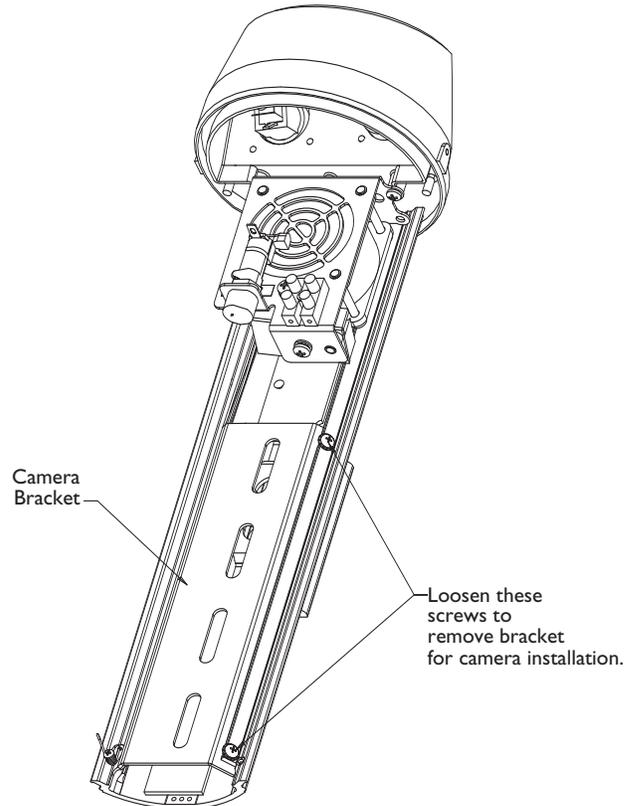

Figure 3: Removing the Camera Bracket
1. Loosen the two screws holding the camera bracket to the base. It is not necessary to remove them completely. See **Figure 3**.